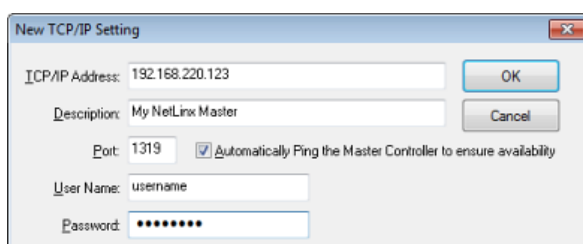

FIG. 18 NetLink Studio - New TCP/IP Setting dialog
5. Click **New** to open the *New TCP/IP Setting* dialog. In this dialog, you can enter both a previously obtained DHCP or static IP address and an associated *Description* for the connection into their respective fields. (FIG. 18):